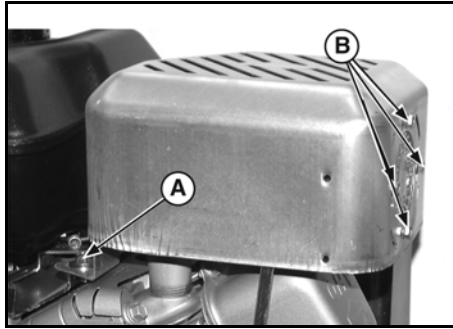

Figure 7
5. Place muffler guard over muffler and start screw (A, Figure 7) but do not tighten.
6. Line up holes in guard and end of muffler then start screws (B). Tighten all screws to values listed in Section 12 - Engine Specifications.